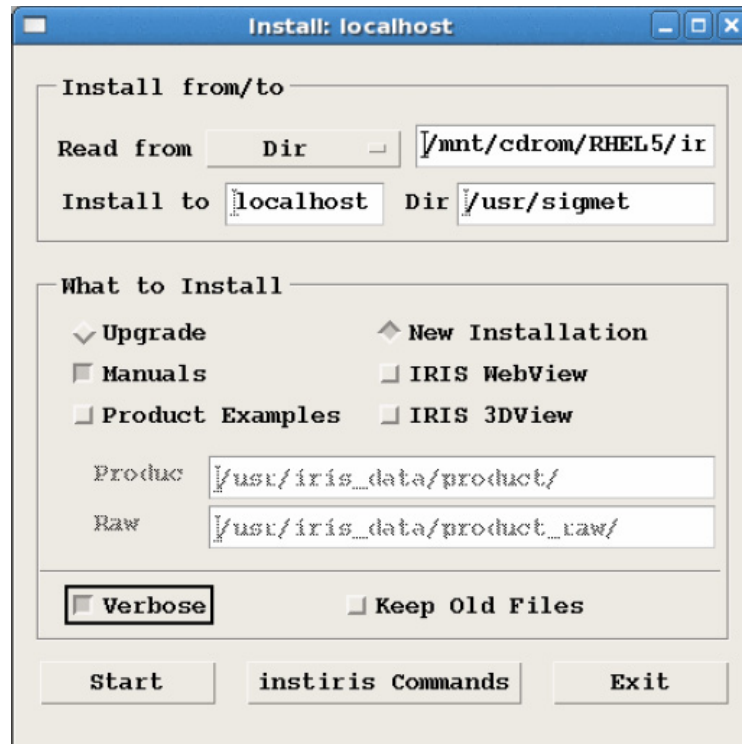

Figure 1 New Install Dialog Box
1. In the **What to Install** section of the install utility window, select the **New Installation** box (as shown in Figure 1).